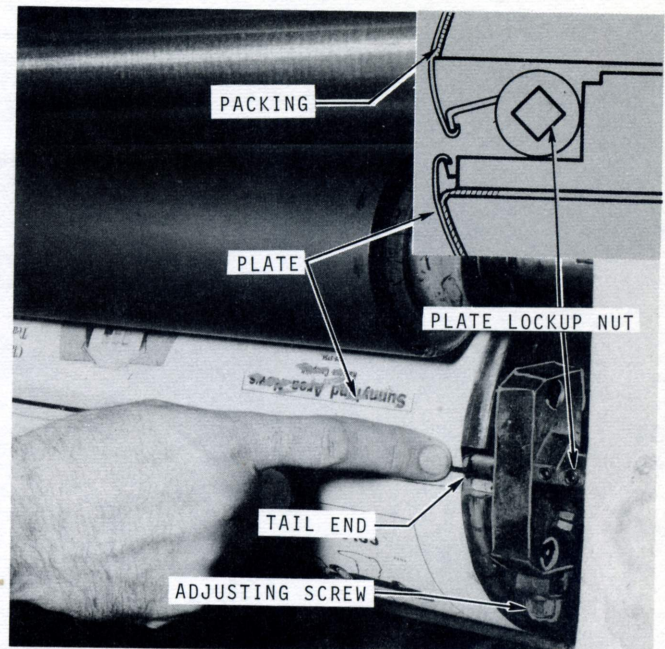

Figure 14
4. Turn the adjusting screw on the bottom of the block on both ends of the plate cylinder until the packing can be inserted under the tail bar as shown in Figure 14.
Installing Plates (Fig. 14)
5. Remove the wrench and inch the press around one full revolution. The lockup automatically locks as the cylinder rotates. Check that the head end of the plate is gripped firmly and the plate is tight on the cylinder. The mounted plate is shown in Figure 14.